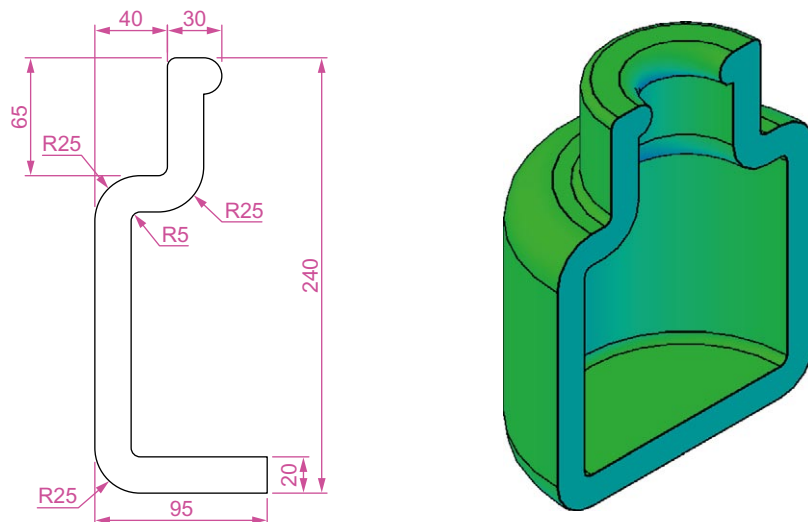

Fig. 12.22 Third example – Revolve. The outline to be revolved and the solid of revolution
### Third example – Revolve (Fig. 12.22)
3. Construct the pline (left-hand drawing of Fig. 12.22). The drawing must be either a closed pline or a region.
The result is shown in Fig. 12.22 (right-hand drawing).